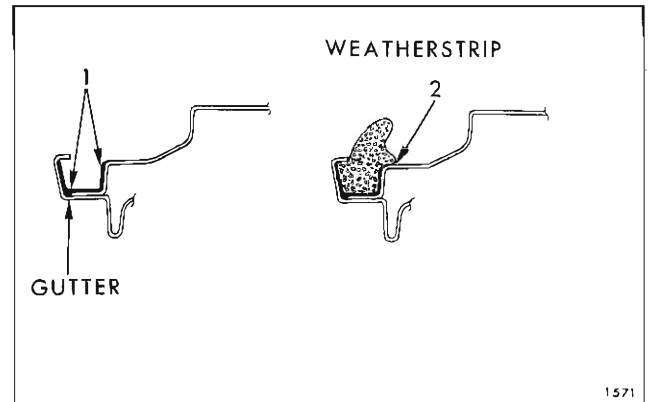

Fig. 2F15—Rear Compartment Weatherstrip
2. Apply (brush) a continuous coat of neoprene weatherstrip adhesive along bottom, inner and outer walls of gutter as indicated at "1" in Figure 2F15 around complete length of gutter.